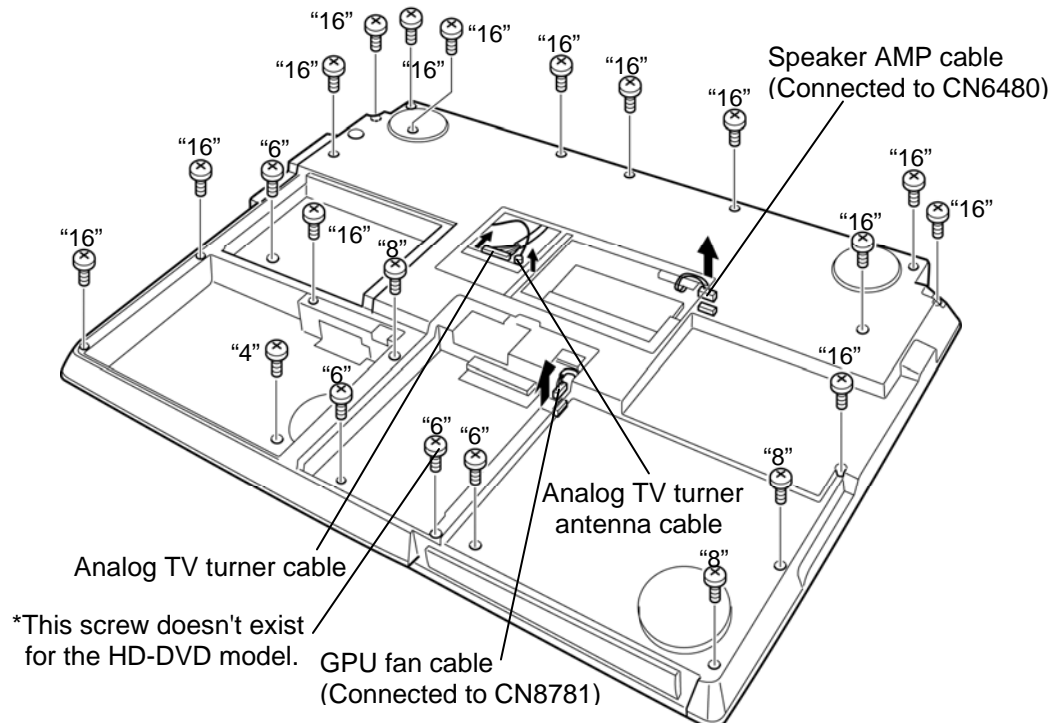

Figure 4-15 Removing the cover assembly (1)
The following describes the procedure for removing the cover assembly (See Figure 4-15 to 4-17).
The following describes the procedure for installing the cover assembly (See Figure 4-15 to 4-17).
- M2.0×4B BIND screw ×1 (Described as "4" in the figure 4-15)
- M2.5×6B FLAT BIND screw ×4 or ×3 (Described as "6" in the figure 4-15)
- M2.5×8B FLAT BIND screw ×3 (Described as "8" in the figure 4-15)
- M2.5×16B FLAT BIND screw ×14 (Described as "16" in the figure 4-15)